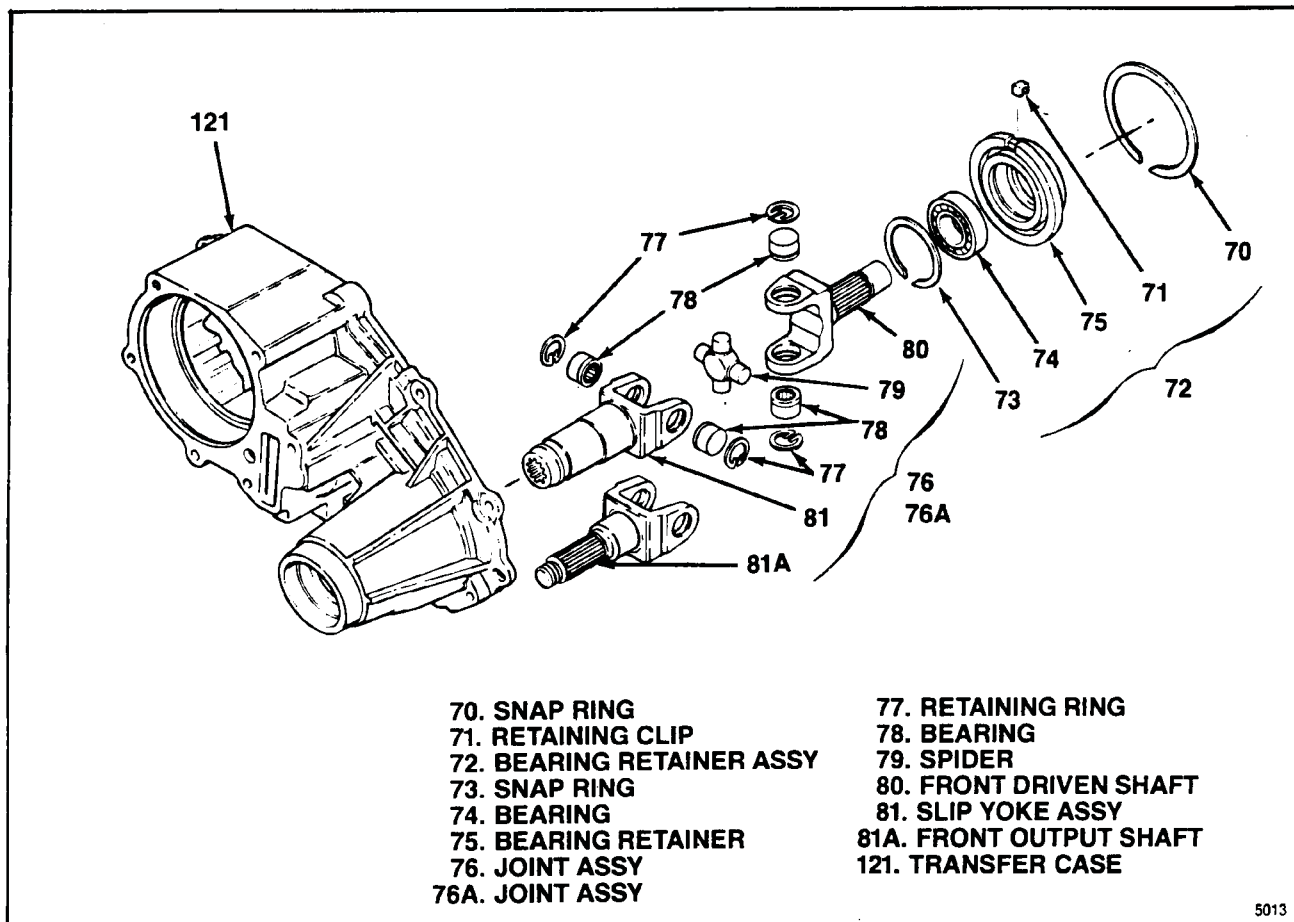

Figure 5-11. Front Output Shaft Group
**5-9. INSTALLING FRONT OUTPUT SHAFT GROUP.** To assembly as completed thus far (82 through 121), install parts as follows (see figure 5-11):
a. Engage two opposite journals of spider (79) with bearing holes in slip yoke assembly (81) or output shaft (81A). One at a time, press in two bearings (78) until closed ends are just beyond retaining ring grooves in slip yoke assembly. Install two retaining rings (77).
b. Engage remaining journals on spider (79) with bearing holes in front driven shaft (80). Install two bearings (78) and retaining rings (77) as described in step a above to complete joint assembly (76 or 76A)
c. Press in bearing (74) to bottom in bearing retainer (75). Install snap ring (73) to complete bearing retainer assembly (72).